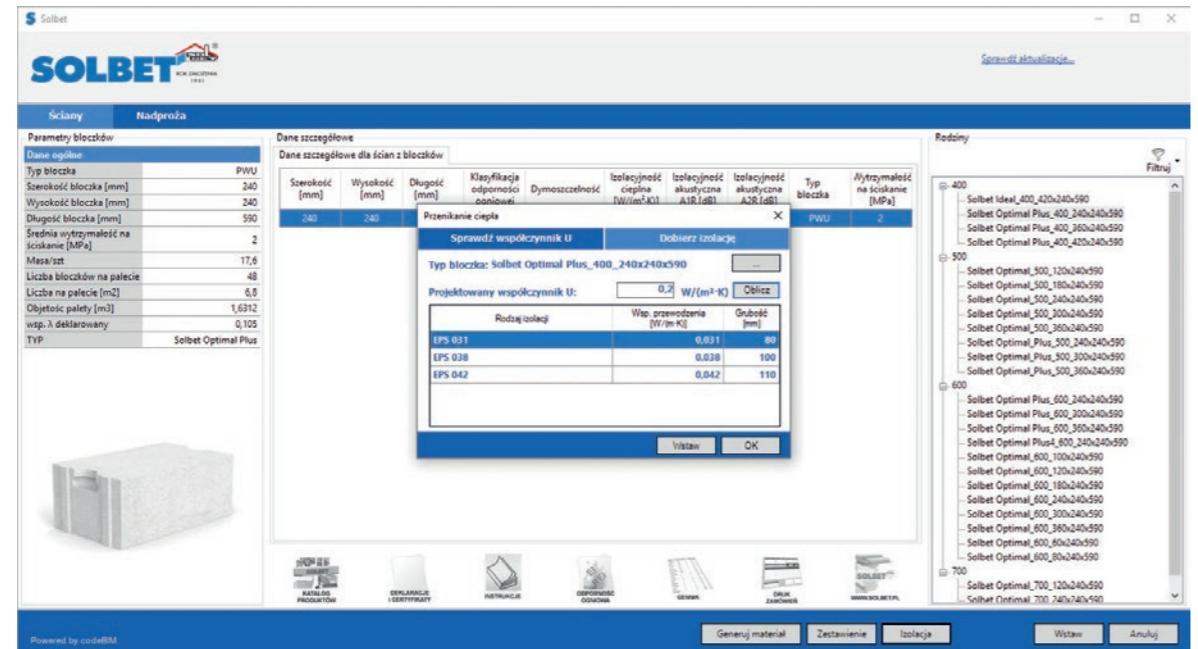

Fig. 3: Determination of thermal insulation thickness for a particular heat transfer coefficient for a partition.
2. Determination of the thermal insulation thickness for a particular heat transfer coefficient, for a partition made of a structural layer made of Solbet blocks (fig. 3).